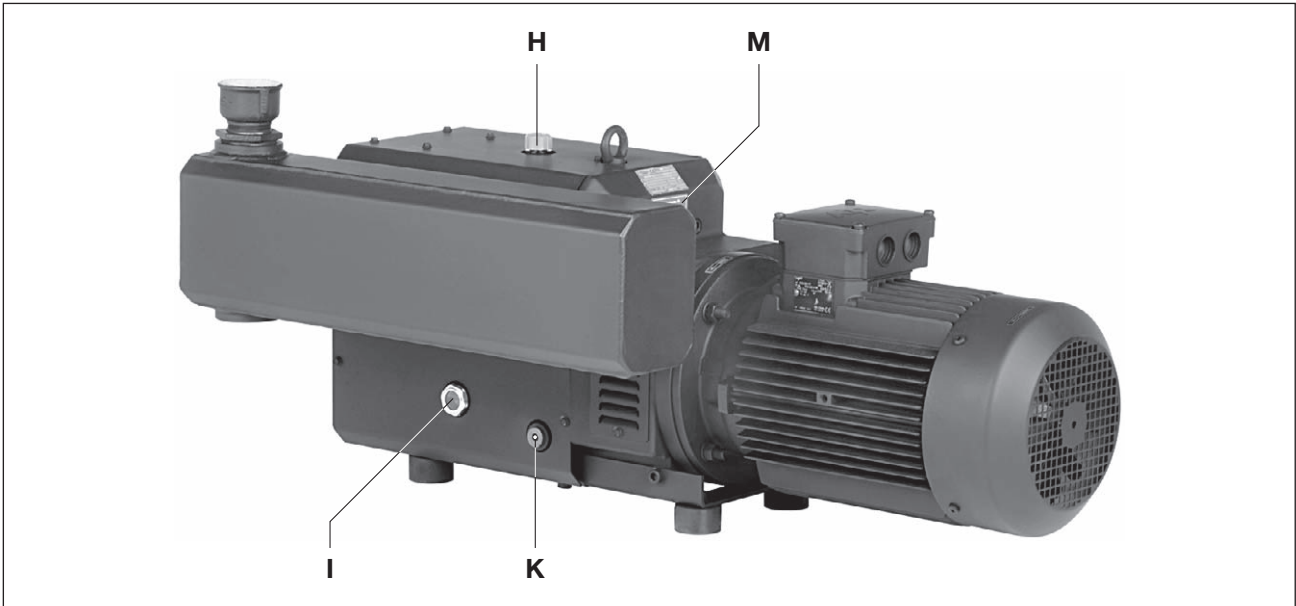

Fig. 6 Changing the oil
The oil level in the sight glasses (Fig. 6/I) must be checked every month.
*We recommend the following oil brand: GEAR-LUBE 150 or equivalent oils by other manufacturers (also see oil recommendation plate (Fig. 6/M)).*